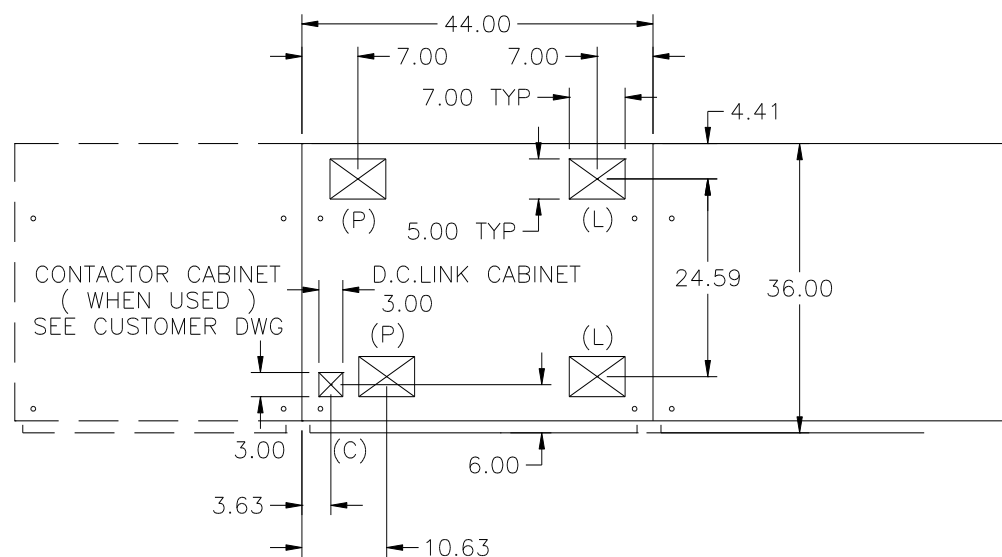

Figure 8.5 – Typical Power Cabling Access (Bottom Entry shown)
Access plates are provided on the top and bottom plates of the cabinet. Figure 8.5 shows the typical areas available for cables. Consult the outline drawings of the drive, as locations may change due to specific customer requirements. Incoming cables areas are coded (P) and motor (load) cable areas are coded (L). Low voltage wiring areas are coded (C).